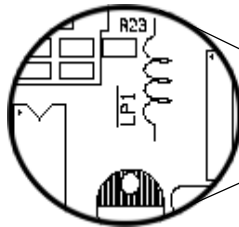

Fig. 27: N.O./N.C. starter disable
2. On the back of the printed circuit board, cut the "LP1" loop as shown on Fig. 27.